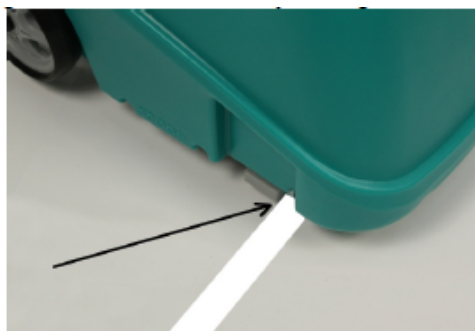

Fig. 5 Alignment fin and baseline
- Set the unit at the centre of the baseline, align the unit with the baseline by the alignment fin which is part of the stationary platter (Fig. 5, 6).